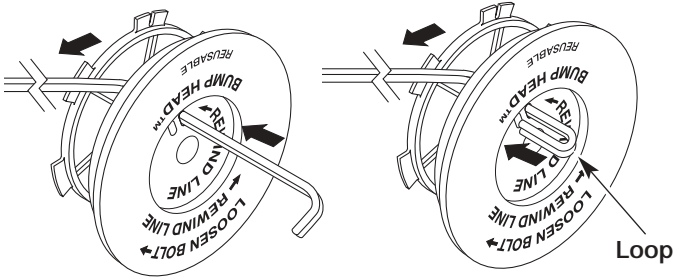

Fig. 41
- Take approximately 8 feet (2.5 m) of new trimming line. Insert one end of the line through one of the two holes in the inner reel (Fig. 41 or 42). Pull the line through the inner reel until only about 4 inches is left out.
- Insert the end of the line into the open hole in the inner reel and pull the line tight to make the loop as small as possible (Fig. 41 or 42).